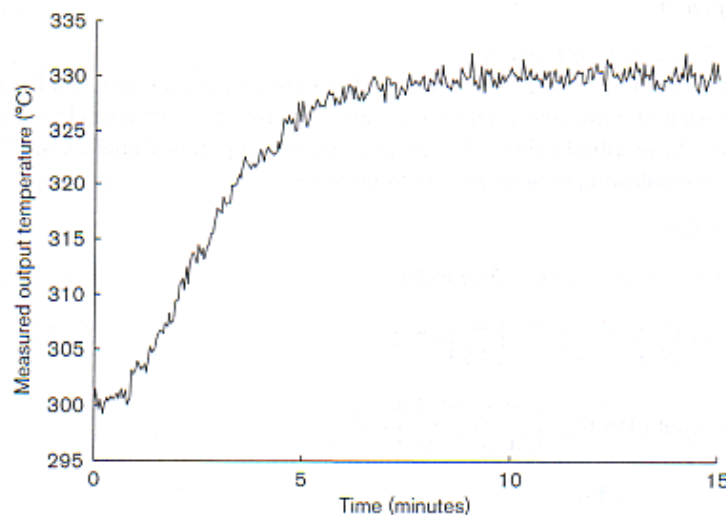

Figure 12.1
- 12.1 An engineer conducts a step response test for a furnace temperature system. The detail of the test is given in Table 12.1 and the process reaction curve is shown in Figure 12.1.